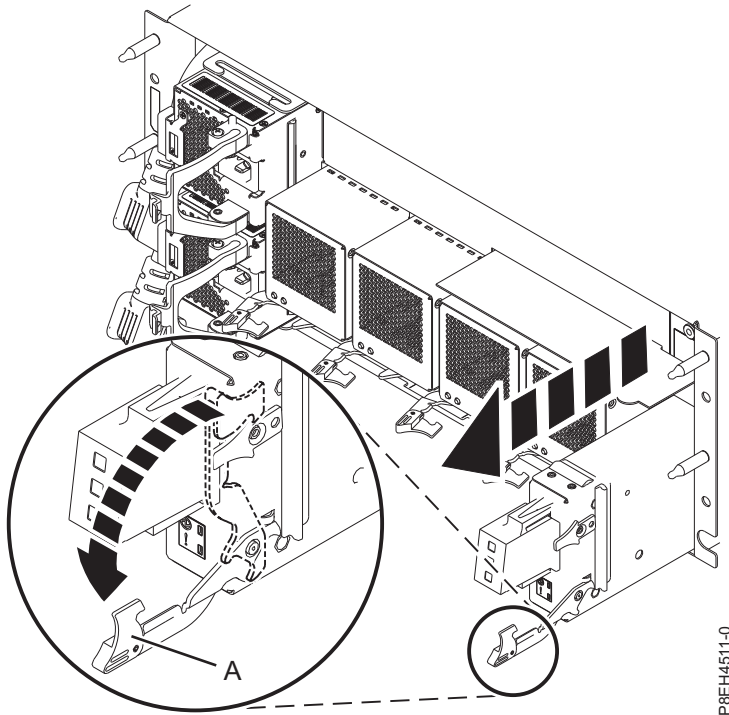

Figure 6. Unseating the chassis management card
6. Hold on to the handle (A) and pull out the fan partially but do not remove it. Repeat step 5 on page 4 and step 6 for the remaining fans.
7. Unseat the chassis management card. Grasp the end of the latching handle (A) and press it down to unlock the chassis management card. Using your hand to support the bottom of the chassis management card, slide it out partially but do not remove it. See Figure 6.